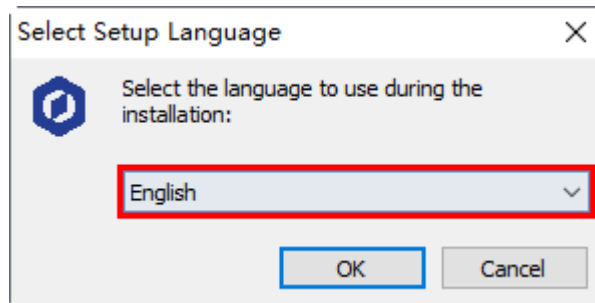

Figure 2.8 Select English
- Step 4** Choose a setup language such as **English**, as shown in Figure 2.8. You can also select **Chinese** if needed.